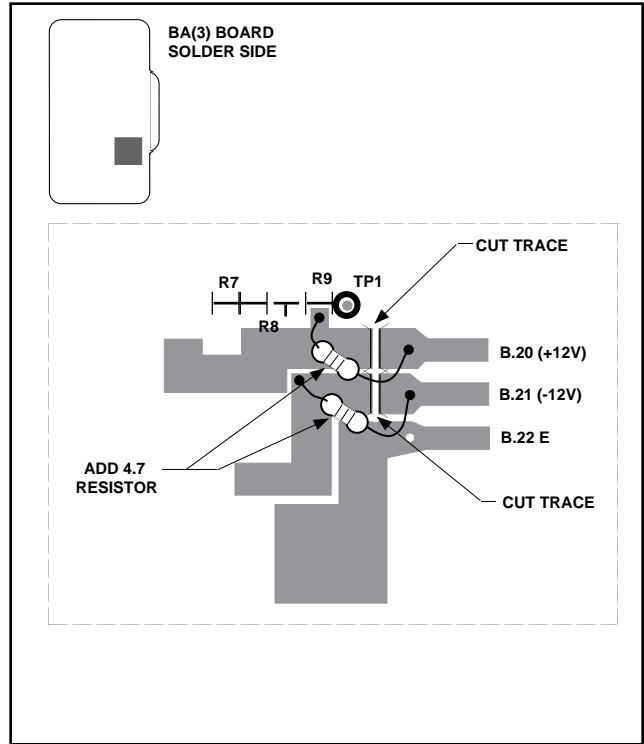

Figure 2
**(See Figure 2 for BA(3) Board)**